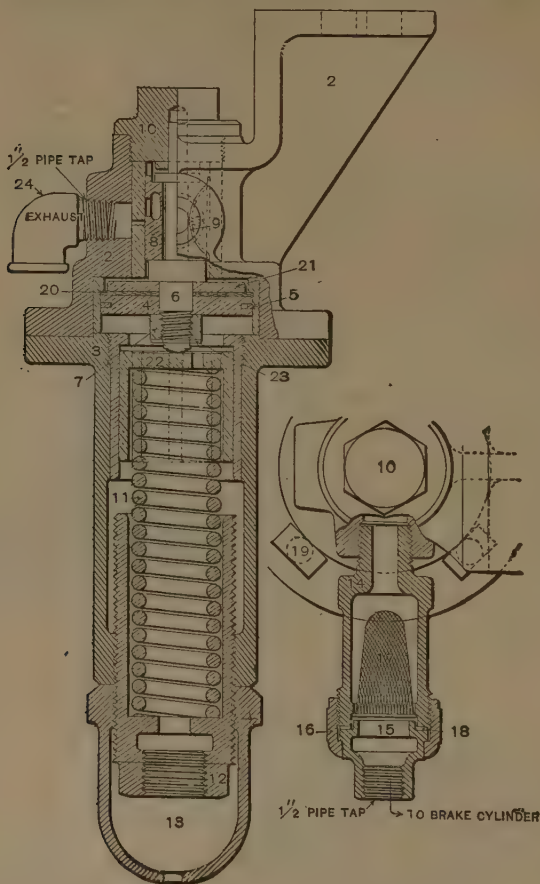
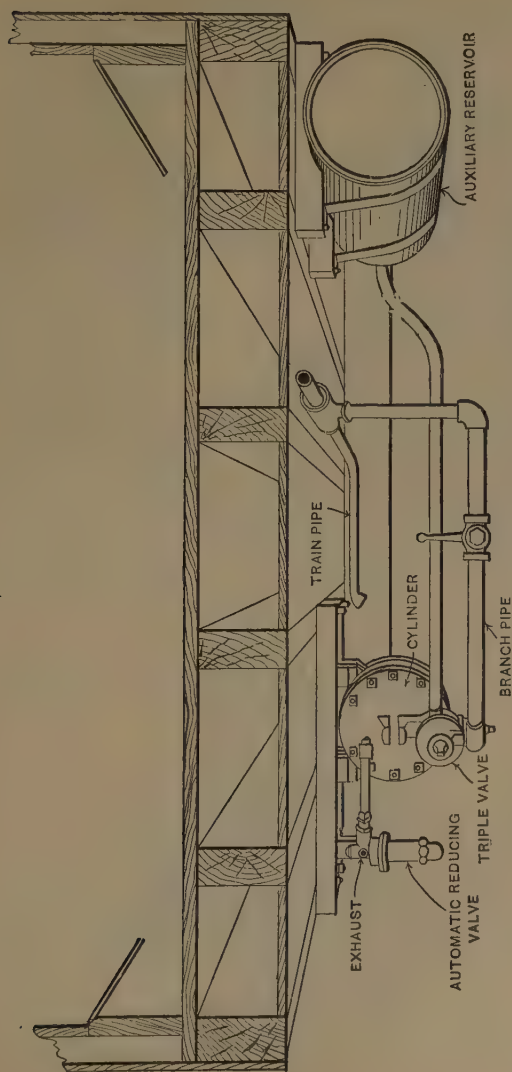
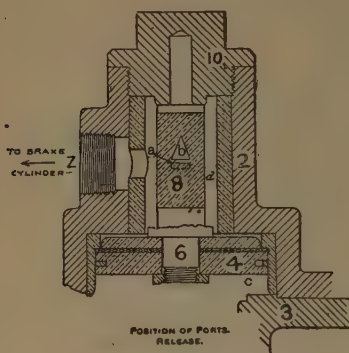

Fig. 299. Automatic Reducing Valve.
Fig. 300. Automatic Reducing Valve Applied to a Car.
Fig. 301. Release.
A. It is shown in vertical cross section in Fig. 299. Fig. 300 shows its application to a car, and Figs. 301, 302 and 303 are vertical cross sections of the upper part, showing the various slide-valve positions for release, service stop, and emergency stop respectively. The triangular port *b* leads to the chamber *d*; port *a* to the atmosphere, through the exhaust opening *Y*, Fig. 299. Referring to the release position, Fig. 301, the port *b* of slide 8 does not register with port *a* of
discharged; spring 11 then restores the conditions of Fig. 301 retaining 60 pounds in the brake cylinder.